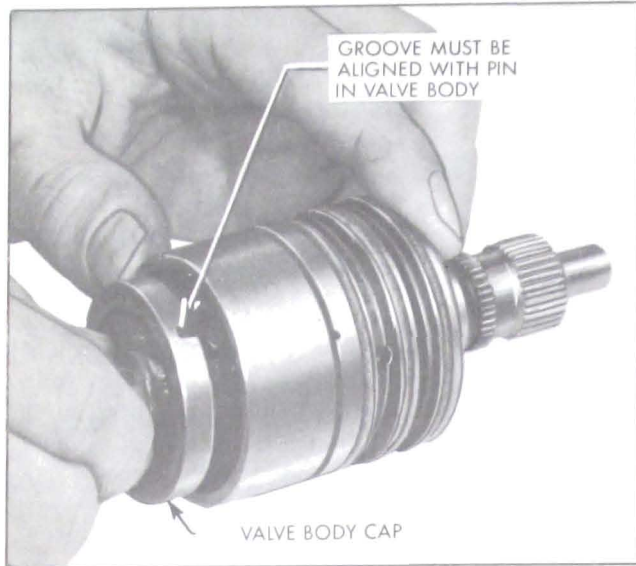

Figure 8-39—Assembling Stub Shaft, Torsion Bar and Cap Assembly in Valve Body
3. Assemble the stub shaft torsion bar and cap assembly in the valve body, aligning the groove in the valve cap with the pin in the valve body. See Figure 8-39. Tap lightly on the cap with a soft mallet until cap is against the shoulder in the valve body. Valve body pin must be in the cap groove. Hold these parts together during the rest of valve assembly.